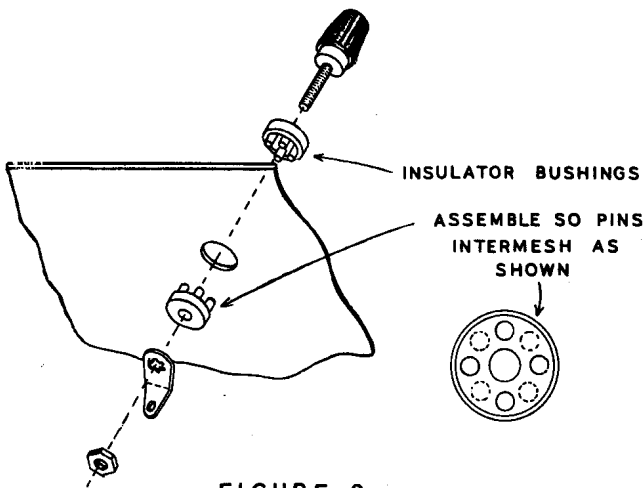

FIGURE 9.
- () Install the black and red terminals as shown in Pictorial 1. Use 4BA shakeproof solder tags and before tightening the nuts ensure that the cross-drilled wire holes are horizontal. For terminal assembly see Figure 9.